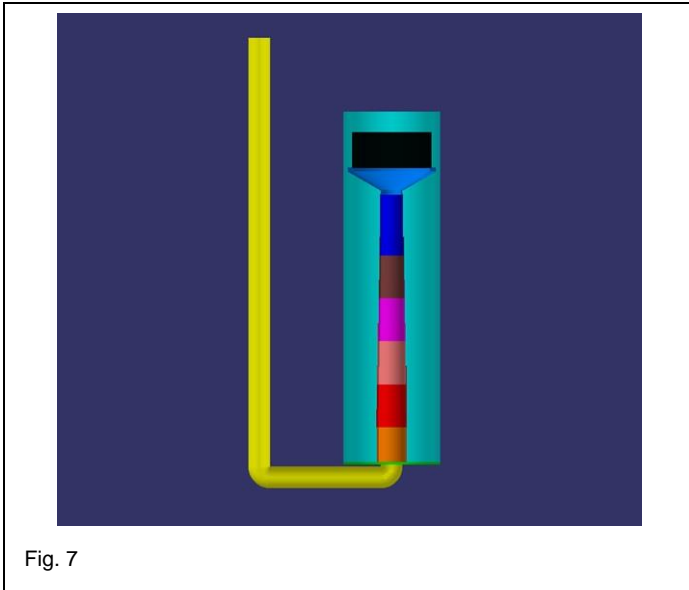

Fig. 7
Step 4: When WPFT has expanded to its full capacity. The TeJHydroLift System will look like as in Figure 7.